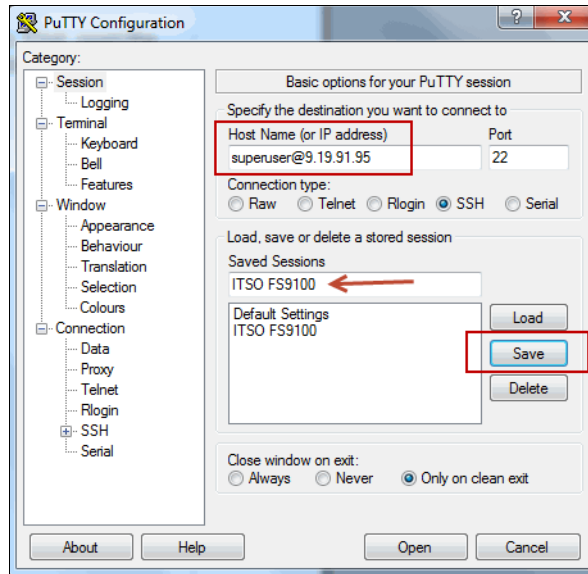

Figure 8-10 Add user name and system name to PuTTY session
2. Provide a name in the Saved Sessions then click Save. See sample shown in Figure 8-10 on page 315.